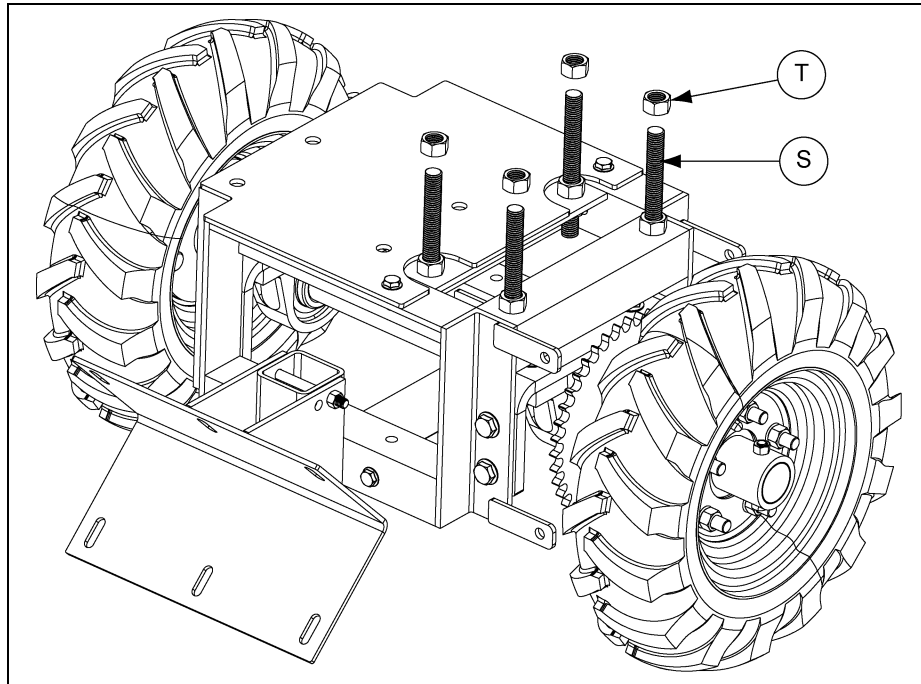

Figure 4F
12. Place one 5/8"-11 hex nut (T) onto each rod in a temporary position. These will hold the motor plate in place. (See Figure 4F.)